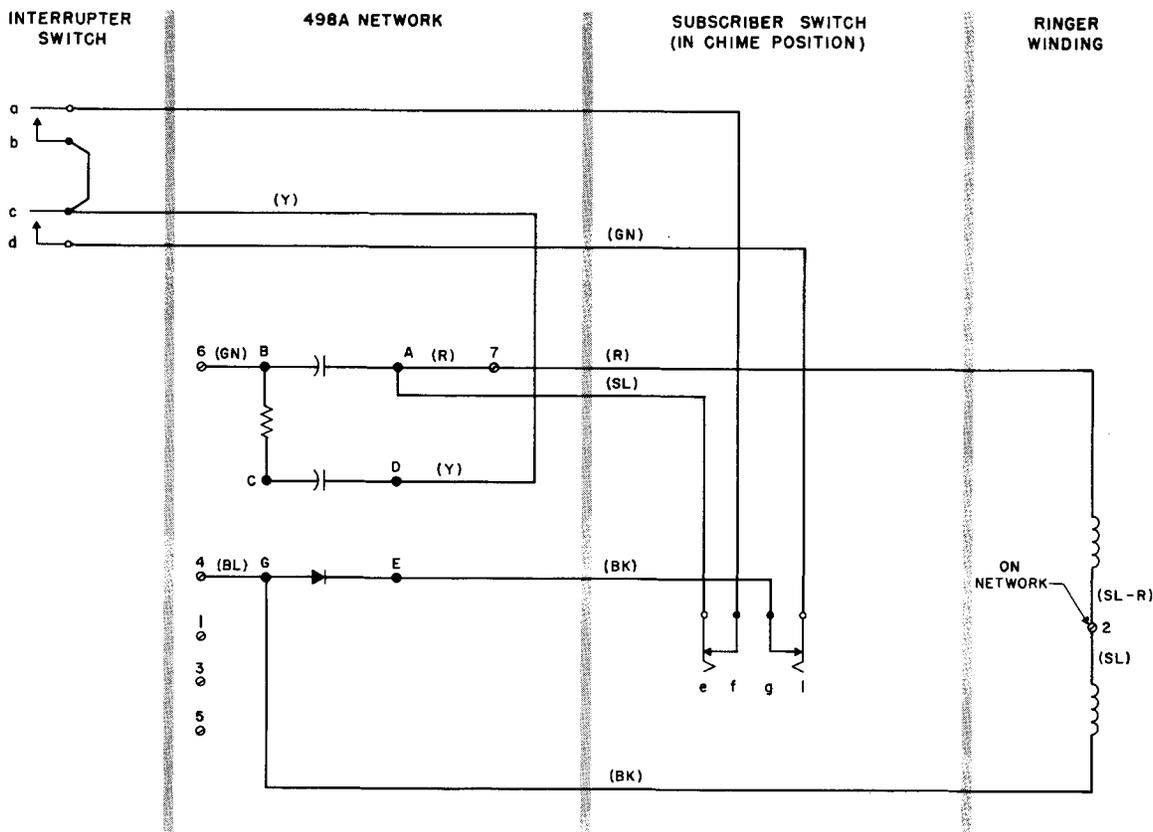

Fig. 3 - Circuit Drawing of F1A Ringer
- Circuit drawing is provided in Fig. 3.